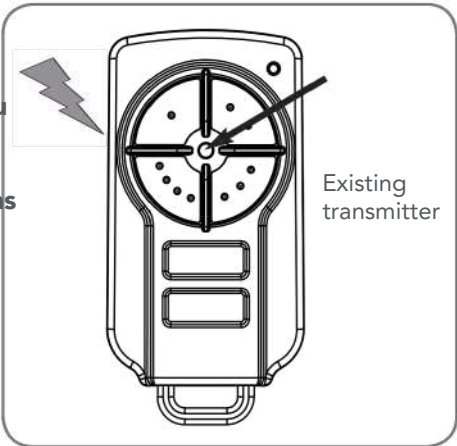

Fig 11.2
- a. Use a small pin to press and hold through the Coding Hole of the existing transmitter for 2 seconds (Fig. 11.2).